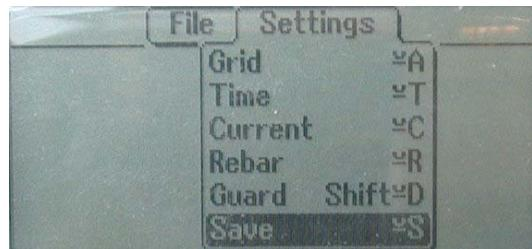

Fig .16. Settings display, save
- Press the *Menu* key Fig. 16.